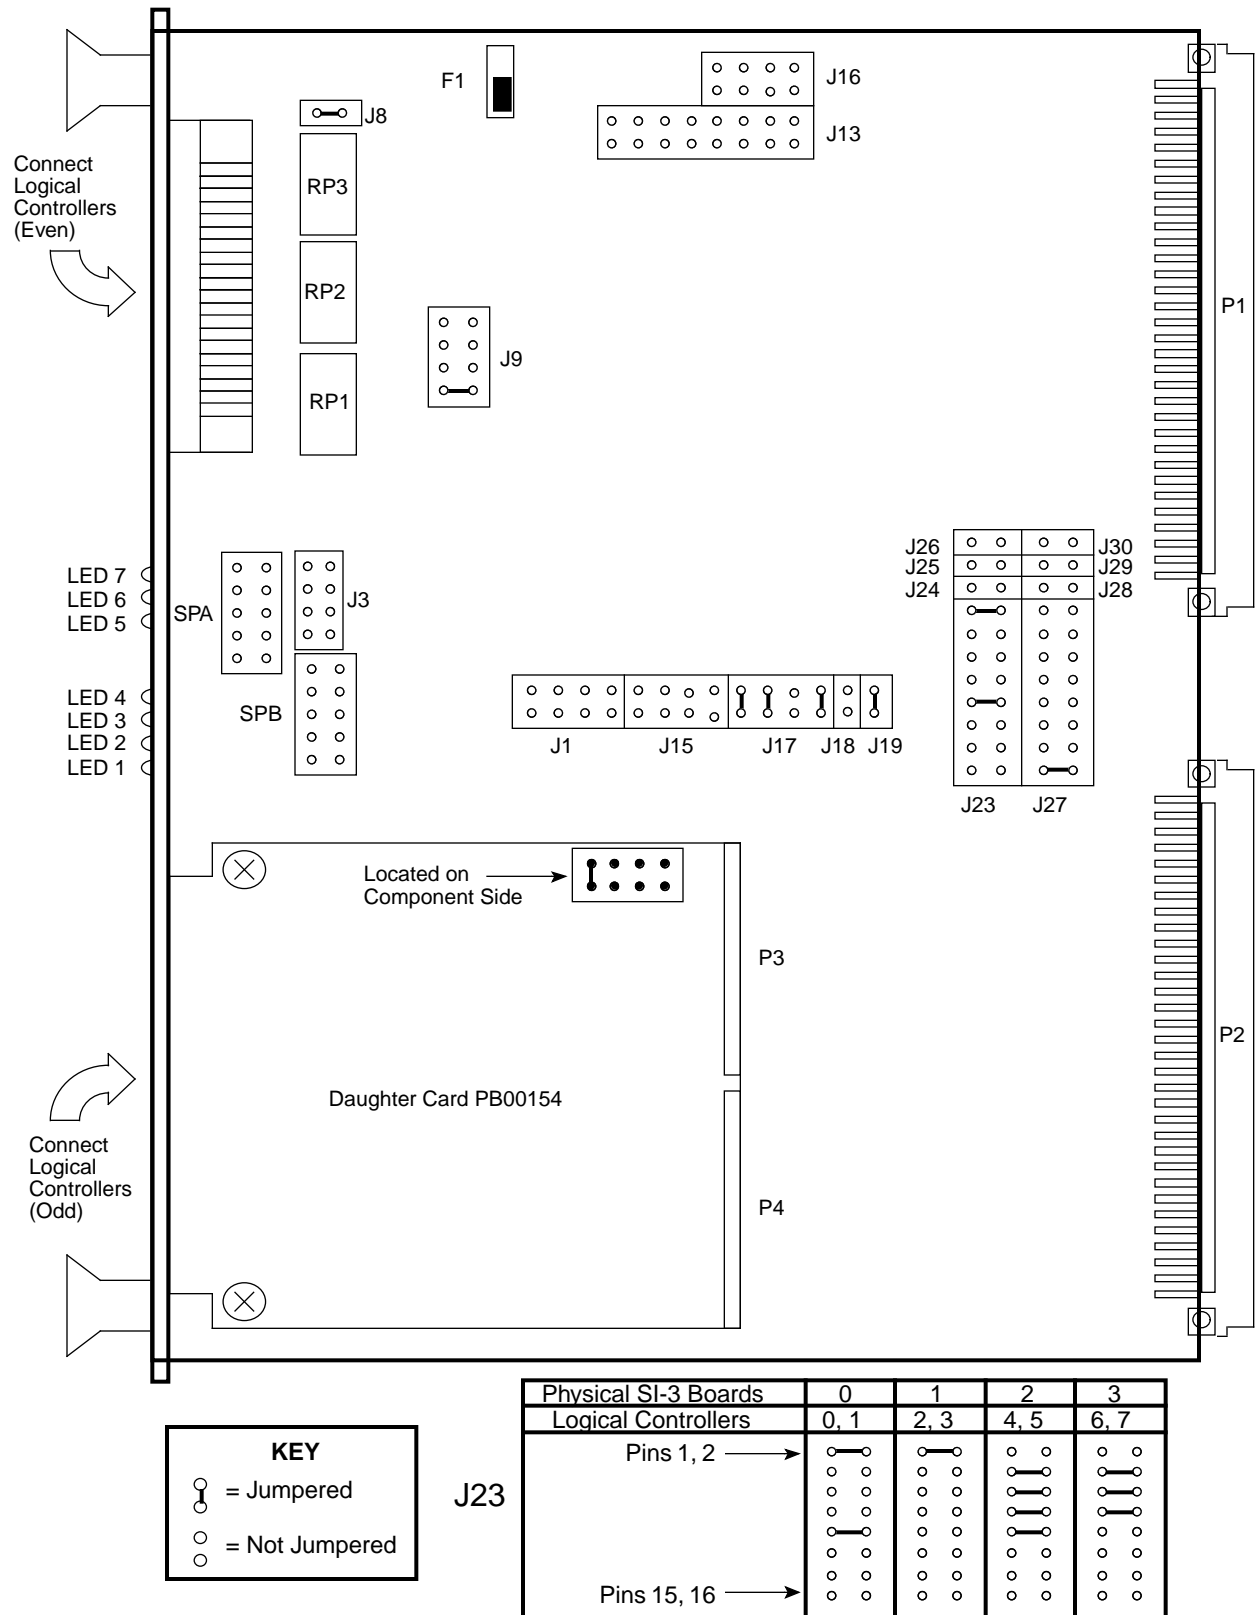

Figure 2. SI-3 Board with J32 Address Jumper
4. Change any jumpers necessary on the new SI-3 controller board. Refer to Figure 2.